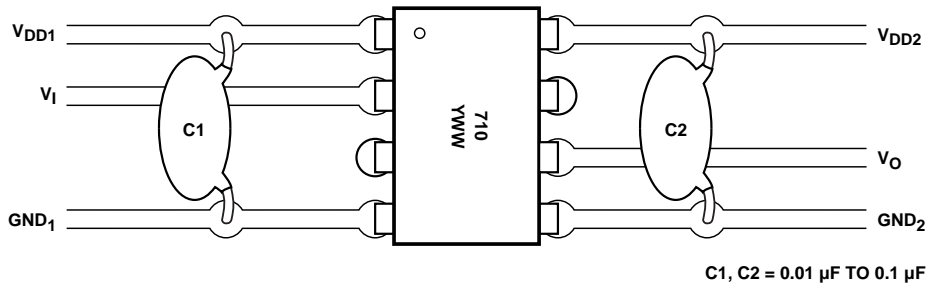

Figure 13. Recommended Printed Circuit Board layout.
0.1  $\mu\text{F}$ . For each capacitor, the total lead length between both ends of the capacitor and the power-supply pins should not exceed 20 mm. Figure 13 illustrates the recommended printed circuit board layout for the HCPL-x710.